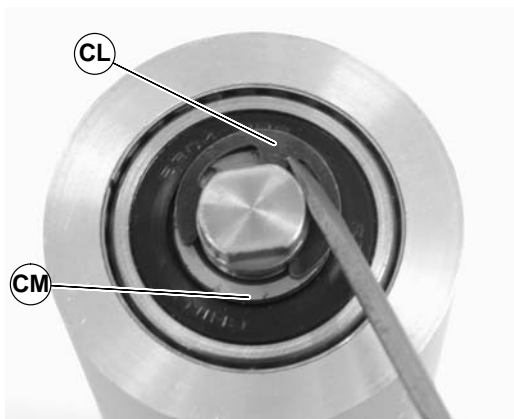

Figure 63
5. Remove the pulley shaft assembly: remove the clip ring (CL of Figure 63) and washer (CM) from one side of the pulley assembly.